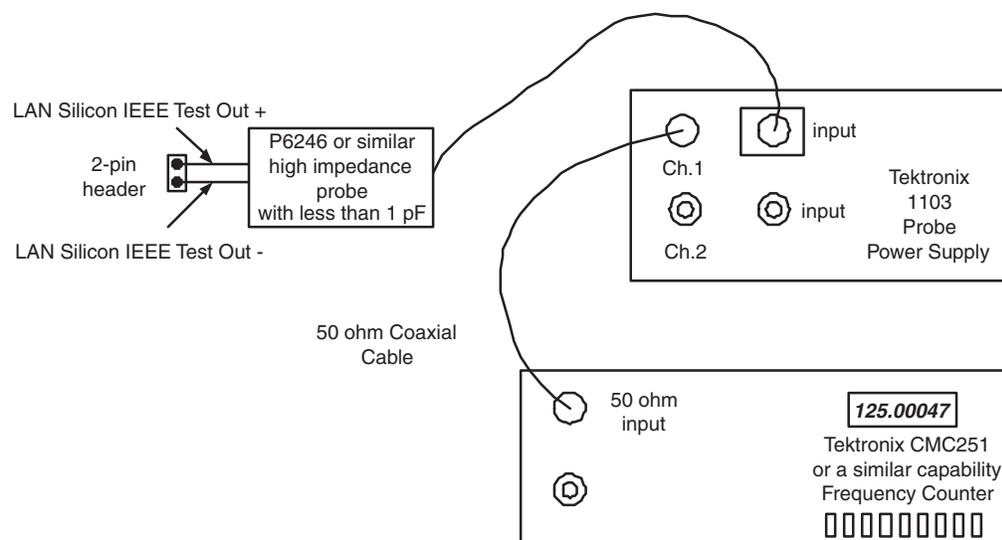

Figure 20. Indirect Probing Setup
Almost all Intel LAN silicon that support 1000BASE-T Ethernet can provide a buffered 125 MHz clock, which can be used for indirect probing of the transmitter reference clock. The buffered 125 MHz clock will be a 5X multiple of the crystal circuit's reference frequency (Figure 20).
2. Connect the test equipment as shown in Figure 20.